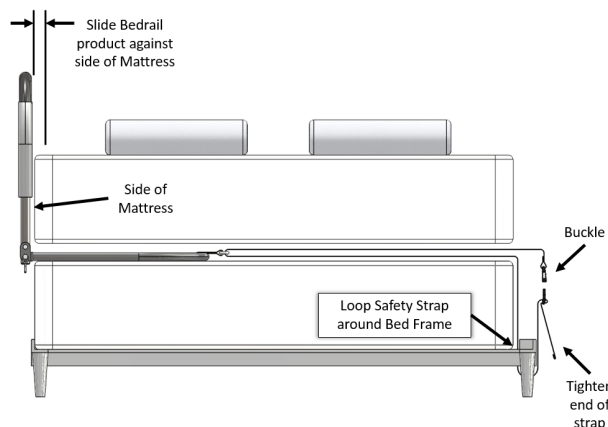

Figure 6
8. It is important that the Bedrail is secured to the Side of the mattress. The Safety Strap is looped around the Bed Frame on the opposite side of the bed, buckled, and tightened as show in Figure 6.